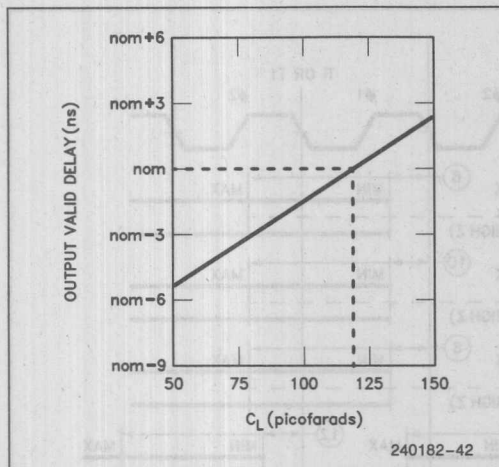

Figure 6.8. Typical Output Valid Delay versus Load Capacitance at Maximum Operating Temperature ($C_L = 120$ pF)
4. Tested with C_L set to 50 pF and derated to support the indicated distributed capacitive load. See Figures 6.8 through 6.10 for capacitive derating curves.